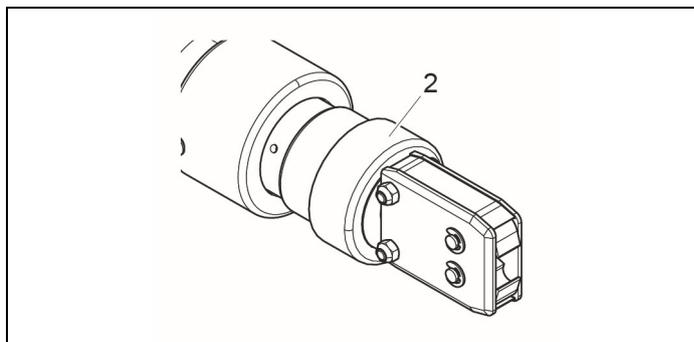

Fig. 24: Unfastening the pincer head
2. Unscrew union nut (Fig. 24/2).